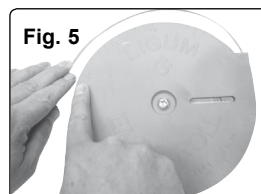

Fig. 5
4.2. Use the ruler, marked on the cassette, to measure the correct length. (Fig.5)